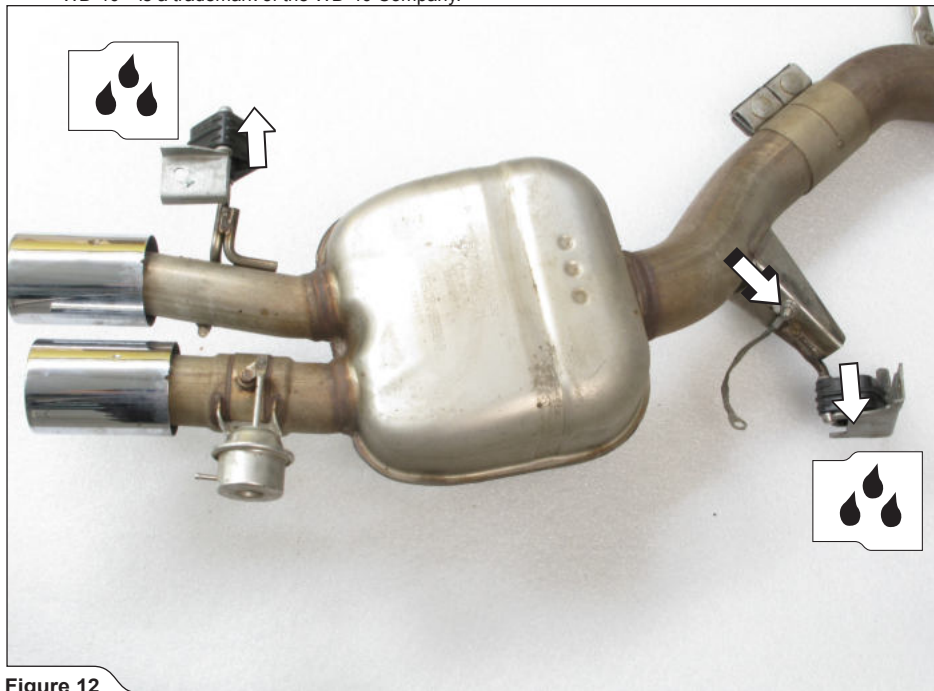

Figure 12
9. Carefully remove the complete stock exhaust system off the vehicle. Carefully pull all rubber brackets off both mufflers and unscrew both ground wires (Figure 12).